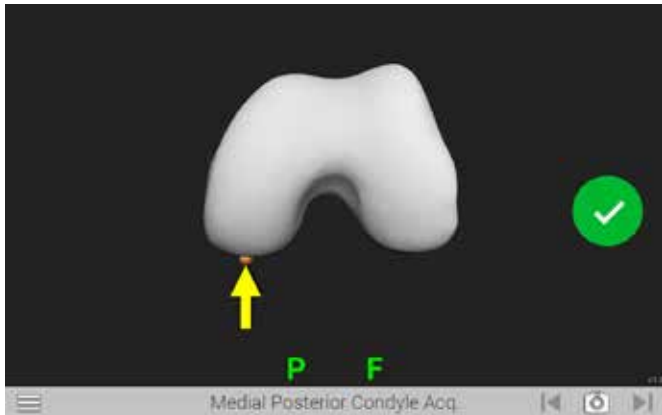
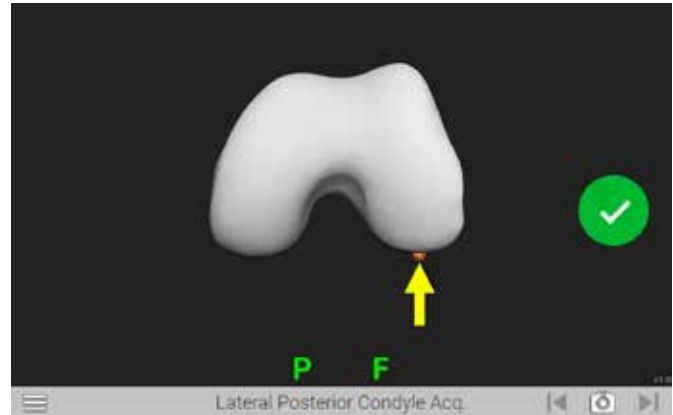

Figure 17
Figure 18
The Medial Posterior Condyle Acquisition screen is displayed (*Figure 17*). Position the tip of the ProbeTracker (P) on the medial posterior condyle press the Forward button. Ensure the tip of the probe maintains contact with the condyle and touch a point that captures the apparent most posterior aspect of the condyle. An audible tone and a green check mark will indicate registration is complete and the system will automatically advance to the Lateral Posterior Condyle Acquisition screen (*Figure 18*). Repeat to acquire point for the lateral posterior condyle.